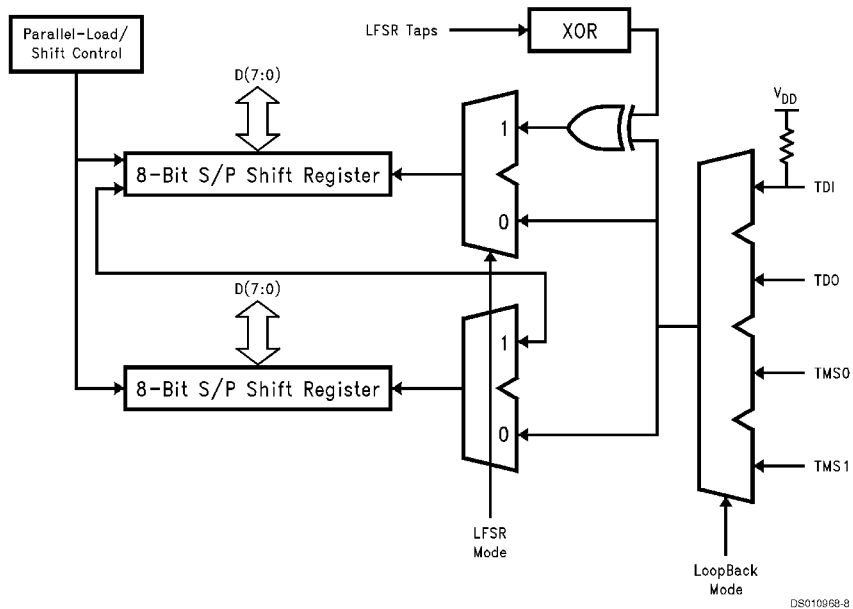

FIGURE 13. TDI Shifter/Buffer Block Diagram
The TDI Shifter/Buffer block diagram is shown in *Figure 13*. This block shifts in serial data from the TDI port and puts it in parallel form for read operations at the PPI. During normal shift modes, double-buffering is achieved by configuring the shifter/buffer as a 2 x 8 FIFO. This block can also be configured as a 16-bit Serial Signature Compactor (SSC). Write, read, and shift operations are controlled by a local state machine that accepts stimulus from the PPI, Mode Registers, CNT32 and the TCK Control section. The TDI input always shifts in data on the rising edge of SCK. The order of shifting is least significant bit first. The TDI input includes a pull-up resistor to force a logic 1 when the test data signal returning from the scan chain is floating.
**TEST LOOP-BACK MODES** . This feature provides a means for testing PSC100 functionality by looping data appearing at the output of an outgoing shifter/buffer (i.e., TMS0, TMS1 or TDO) back to the input of the TDI shifter/buffer. The loop back function is accomplished with a simple multiplexer (see Figure 13) whose path selection is determined by setting the mode bits in MODE1(1:0). Loop back does not disable TCK or prevent shifting of data in the shifter/buffers to the scan chain(s) connected to the PSC100. Therefore, the state and operation of the TAP controllers within the scan chain(s) must be considered when developing Loop-Back test vectors to prevent undesired shifting of data or TAP controller transitions within the scan chain.